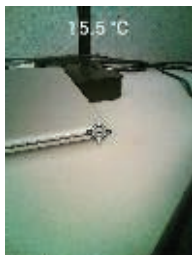

Figure 5.3 Visible Spectrum Digital Camera Image
4. View the image on the display, see **Figure 5.3**.